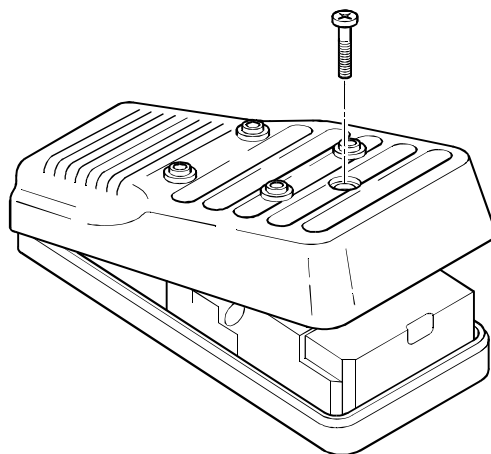

Figure 21: Handsfree cover replacement
1. (Figure 21) Reinstall the front cover onto the handsfree assembly by reconnecting the speaker lead onto the handsfree PCB and reinstalling the cover securing screw.